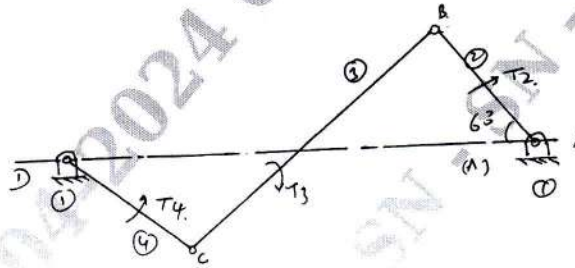

Fig.Q3(a)
- 3 a. In a four-link mechanism shown in Fig.Q3(a), torques T_3 and T_4 have magnitude of 30Nm and 20Nm respectively. The link lengths are $AD = 800\text{mm}$, $AB = 300\text{mm}$, $BC = 700\text{mm}$ and $CD = 400\text{mm}$. For the static equilibrium of the mechanism, determine the required input torque T_2 .